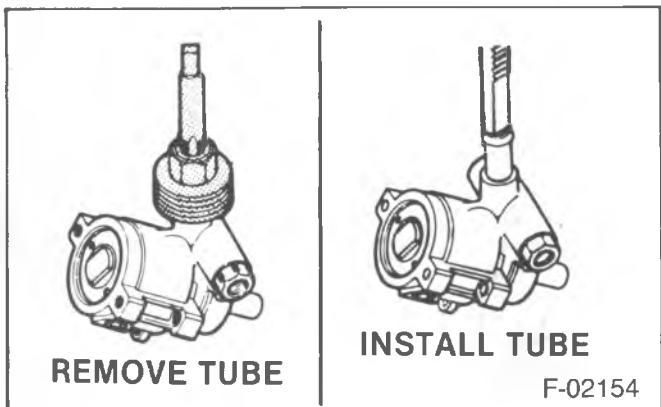

Figure 39—Remove and Install Return Tube
1. Return tube (15) (figure 39) or reservoir (24) (figure 28) depending on model.